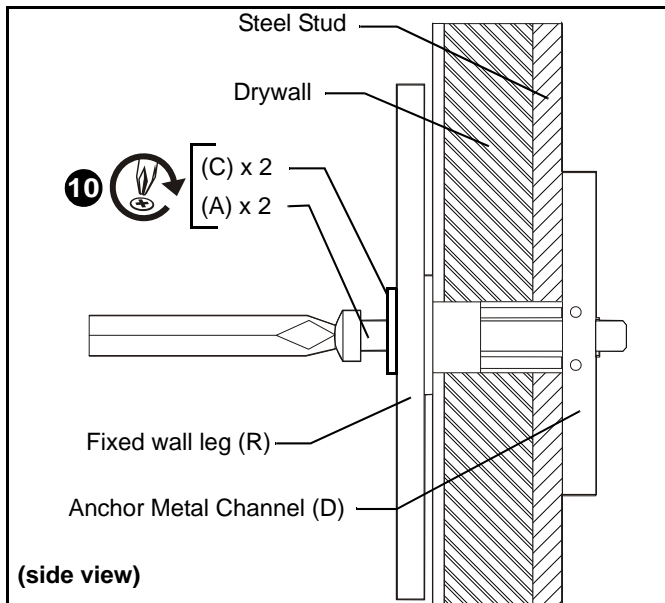

Figure 17
8. Place fixed wall legs (R) over anchors and align mounting slots with holes in anchors. (See Figure 17)
9. Place 1/4" flat washer (C) onto 1/4-20 x 1-3/4" Phillips pan head screw (A).
10. Insert Phillips pan head screw (A) with flat washer (C) through mounting slot in fixed wall leg and into snap toggle (D) and tighten until flush against fixed wall leg. DO NOT overtighten! (See Figure 17)